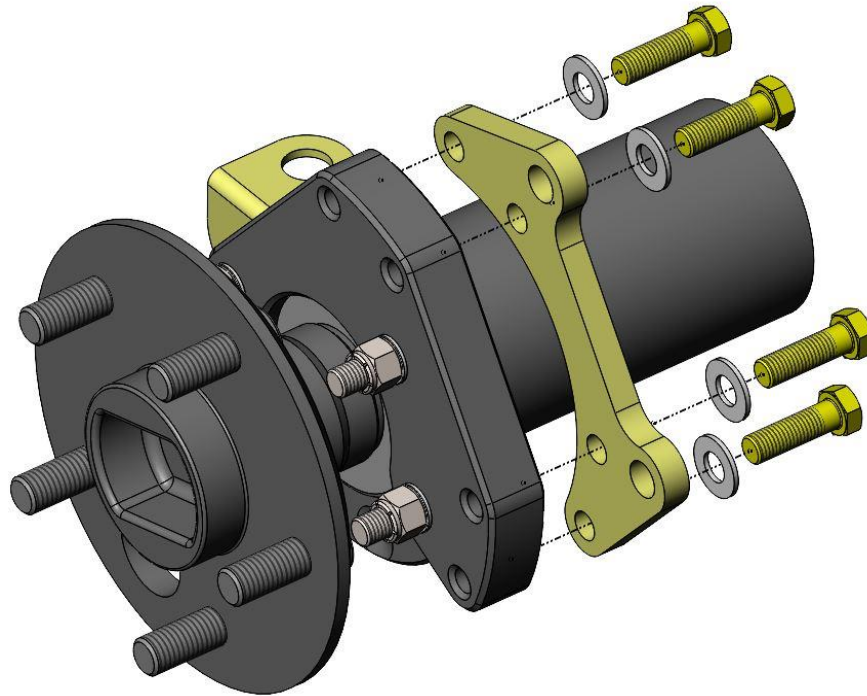

Figure 3 – Caliper Mounting Brackets Fully Installed
6. Using the provided 3/8"-24 x 1.250" Grade 8 Hex Head Bolts and 3/8" SAE Flatwashers, install the Secondary Caliper Mounting bracket to the inboard side of the Primary Caliper Mounting Bracket. **NOTE:** Do not fully tighten the bolts at this point due to possible removal for shimming. The bolts will be torqued in a later step. Figure 3 below shows the bracket being installed.